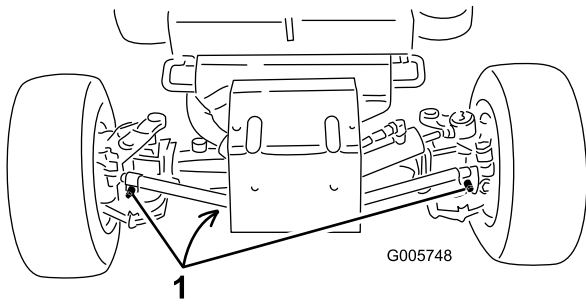

Figure 56
2. Clean area around the drain plugs (Figure 56).